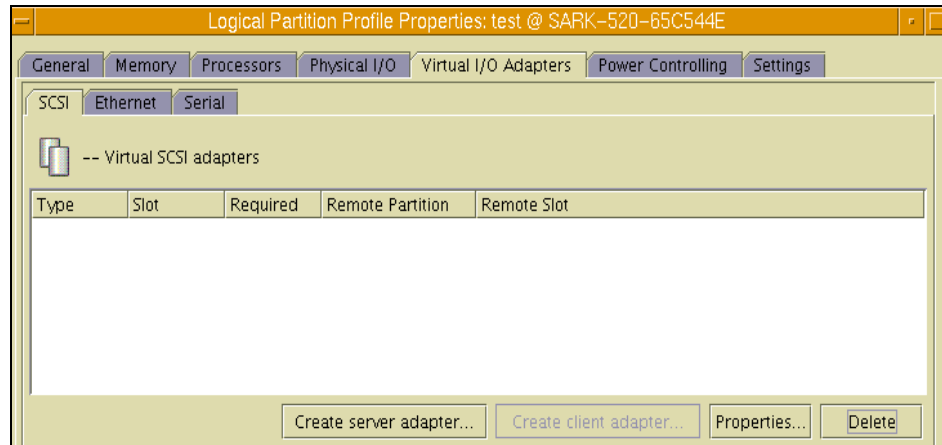

Figure 4-20 Click *Create server adapter...*
2. Create the Virtual SCSI in the VIO server's profile. Click **Create server adapter...** as shown in Figure 4-20.